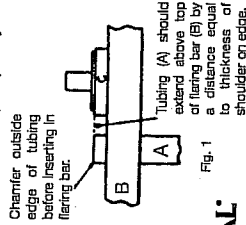

Fig. 1
3. Insert the tubing into the hole of proper size, with end of tubing protruding above top of flaring bar by a distance equal to the width of shoulder on adapter of corresponding size. See Fig. 1. On steel tubing that is harder than average, it may be necessary to reduce slightly the distance which tube protrudes. Experience in using the tool will indicate when this is necessary. (A set of 5 adapters, one each for $\frac{3}{8}$ ", $\frac{1}{4}$ ", $\frac{3}{16}$ ", $\frac{5}{16}$ ", $\frac{3}{8}$ " and $\frac{1}{2}$ " O.D. tubing, is a part of the tool.)